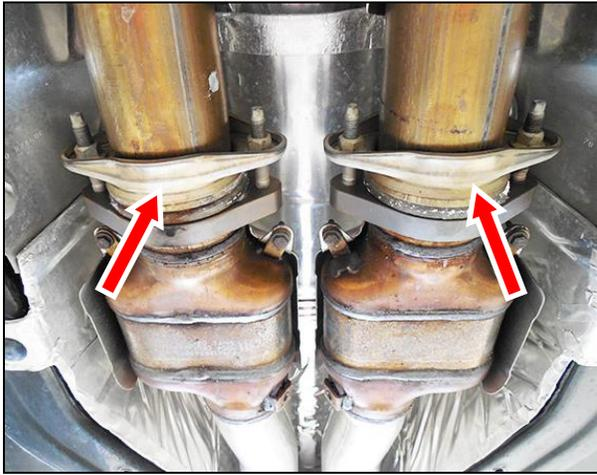
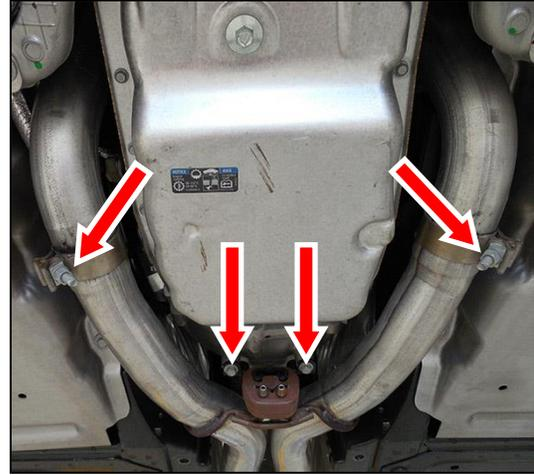

Figure 4
Figure 5
6. Support the X-pipe and remove the (x4) 15mm nuts at the flanges on the down pipes (**Figure 4**). Loosen the 15mm clamp bolts at the slip joint connecting the X-pipe to the over-axle pipes (**Figure 5**). Remove the (x2) 13mm bolts at the center support hanger on the X-pipe (**Figure 5**). Remove the X-pipe from the over-axle pipes.
6. Install the X-pipe with link pipes onto the down pipes. Install the 10mm x 60mm bolts and flange nuts. Tighten the nuts to allow for adjustment. Support the X-pipe assembly. Install the center support hanger assembly and tighten the (x2) 13mm bolts (**Figure 5**). Adjust the position of the link pipes if necessary and tighten the (x4) nuts.